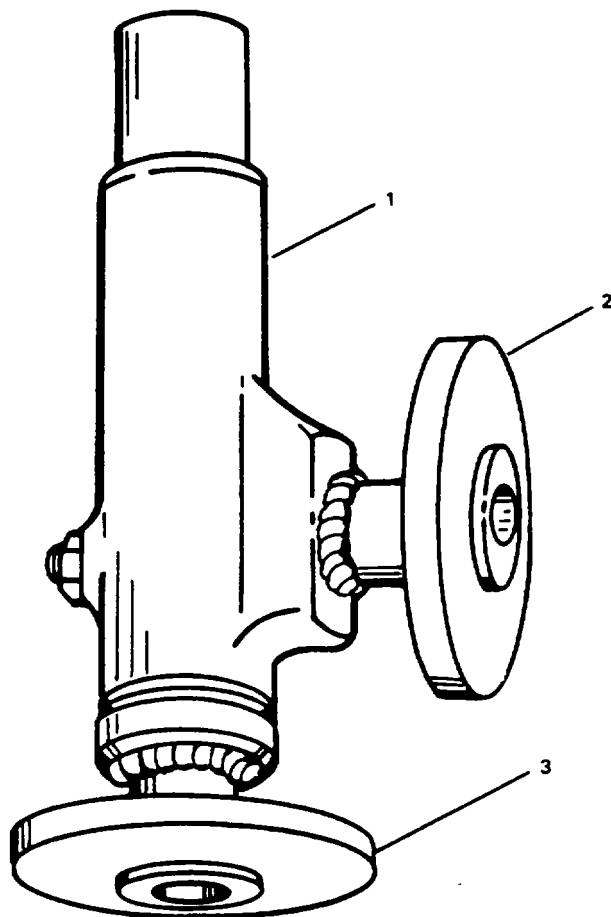

Figure 2-98. Replace Relief Valve, 1/2-Inch.
a. Remove discharge pipe by disconnecting at flange (2, figure 2-98).
b. Remove valve (1) by disconnecting at flange (3).